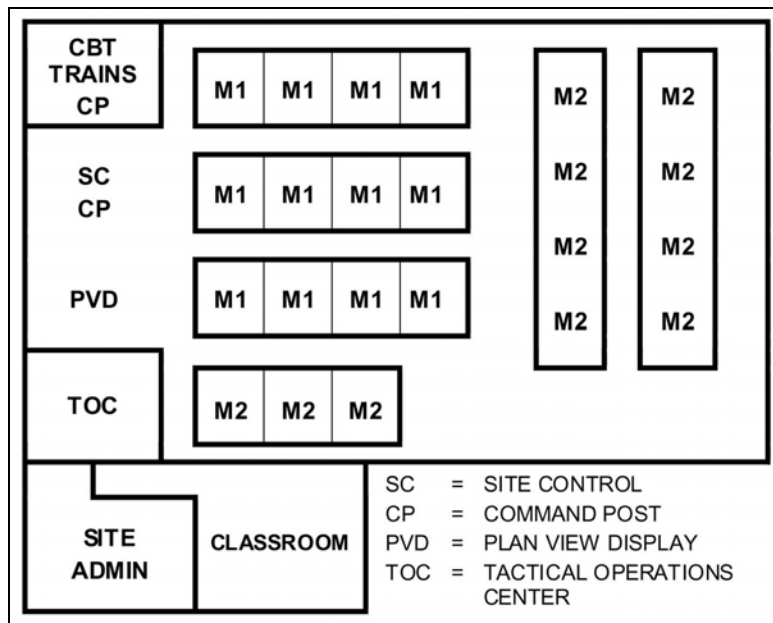

Figure 4-8. Simulations network.
c. **Simulations Network.** The SIMNET (Figure 4-8, page 4-10) is a local network of combat vehicle simulators that simulate the M1 tank and the M2 or M3 BFV. The commander can request a SIMNET configuration in any size from tank or infantry platoon up to battalion task force size. When SIMNET is used as a company- or battalion-level trainer, a complete functional tactical operation center (TOC) and combat trains command post (CP) are available to act as the administration logistics operations center (ALOC) that would normally be present during combat operations. Computer-generated imagery is used to create the illusion of riding in tanks and BFVs fighting force-on-force battles. The training benefits from SIMNET depend on two important factors: training know-how and leadership. The system and its computers are